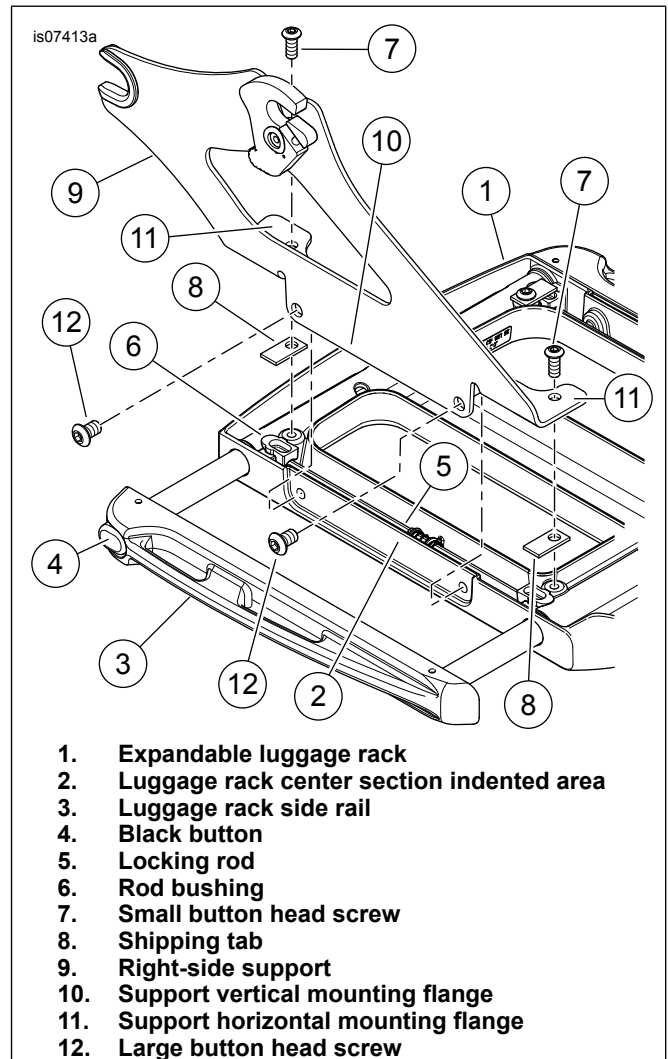

Figure 1. Luggage Rack And Support Assembly
1. See Figure 1. Set the expandable luggage rack (1), top side up on a clean, non-marring surface.
2. Press the black button (4) on one side rail (3) and pull the rail outward firmly but evenly until a definite **click** is heard. Repeat with the remaining side rail.
3. Turn the rack upside-down on the work surface as shown. Remove the four small button head screws (7) and shipping tabs (8). Take care not to disturb the locking rods (5) or black rod bushings (6). Retain the screws, but recycle or properly dispose of the four shipping tabs.
4. Position the right-side support (9) vertical mounting flange (10) into the indented area (2) on the right side of the luggage rack center section as shown.